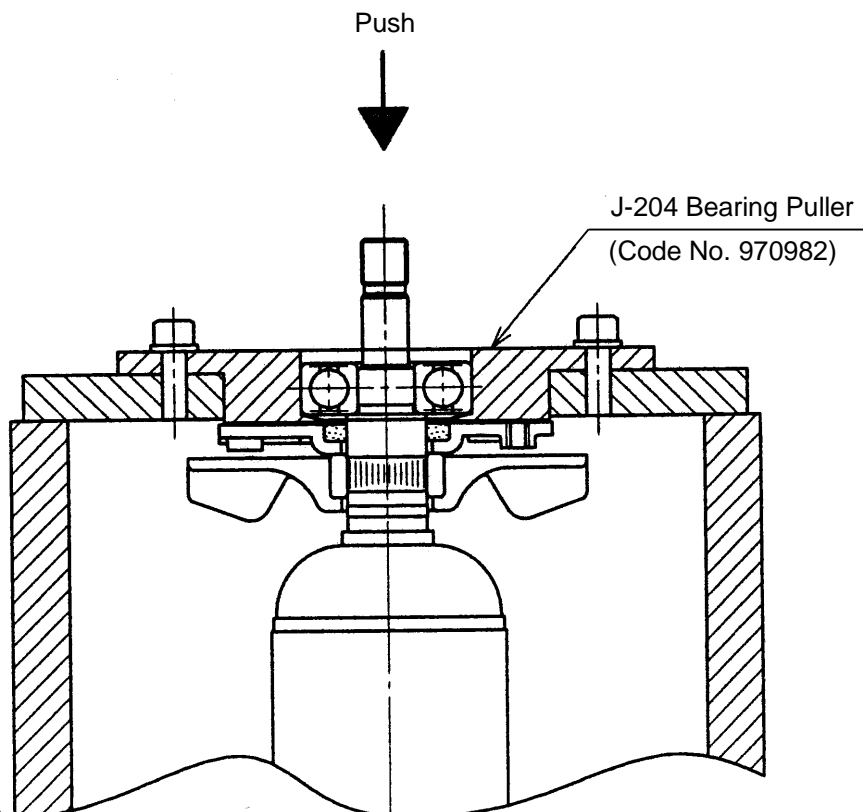

Fig. 3
- (4) Remove the four Seal Lock Screws M5 x 14 **[28]** **<28>**, and remove the Packing Gland **[27]** **<27>**, and related parts.
- (5) After removing in the three Seal lock Screws M4 x 10 **[1]** **<1>**, the Armature Ass'y **[15]** **<15>** can be extracted together with the Bearing Cover (B) **[14]** **<14>**, and related parts.
- (6) Carefully wrap the Armature Ass'y **[15]** **<15>** with a soft, clean rag to protect it from being damaged, and clamp it securely in a vise. Then remove the M8 Lock Nut **[6]** **<6>**, and extract the Pinion **[7]** **<7>**.
- (7) As illustrated in Fig. 3, the Ball Bearing **[11]** **<11>** can be removed from the Armature Ass'y **[15]** **<15>** by utilizing a J-204 Bearing Puller (special repair tool, Code No.970982).